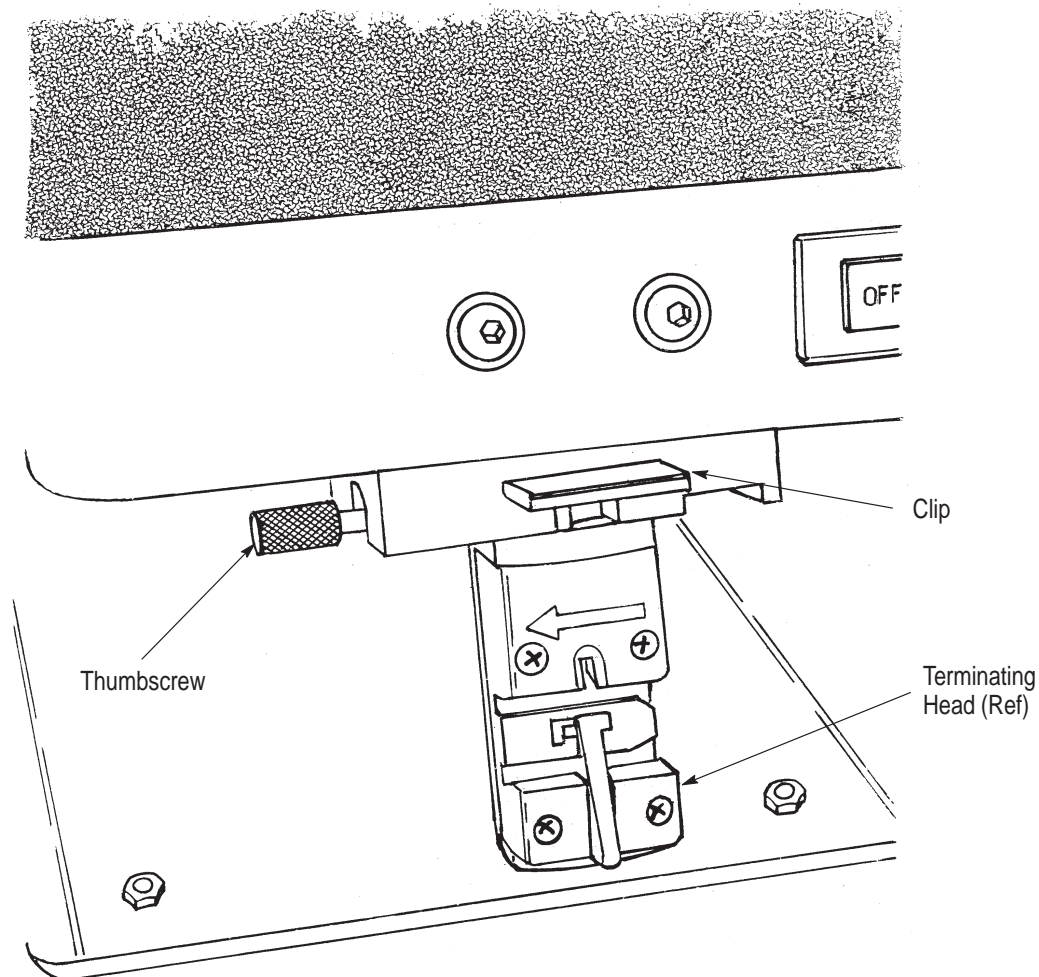

Figure 6
The eccentric and the ram convert the rotational force of the motor into an up and down motion. This action powers the terminating head during the crimping cycle. The clutch, when released by the solenoid actuator, connects the motor to the ram and eccentric for one operating cycle. Terminating heads are secured to the power unit with a clip (see Figure 6). This clip allows fast, easy installation and removal of the terminating heads.
4.1. Machine Setup (Figure 6)
The electric power unit accepts a variety of terminating heads, feed track assemblies, and feed tube assemblies. Refer to the instructions packaged with these assemblies for specific tooling adjustments. The tooling configurations differ considerably from one to another; however, the following installation procedure is common to all. The AMP terminating head will be used in Figure 6 to illustrate machine setup.
2. Position terminating head into the machined frame, as shown in Figure 6.